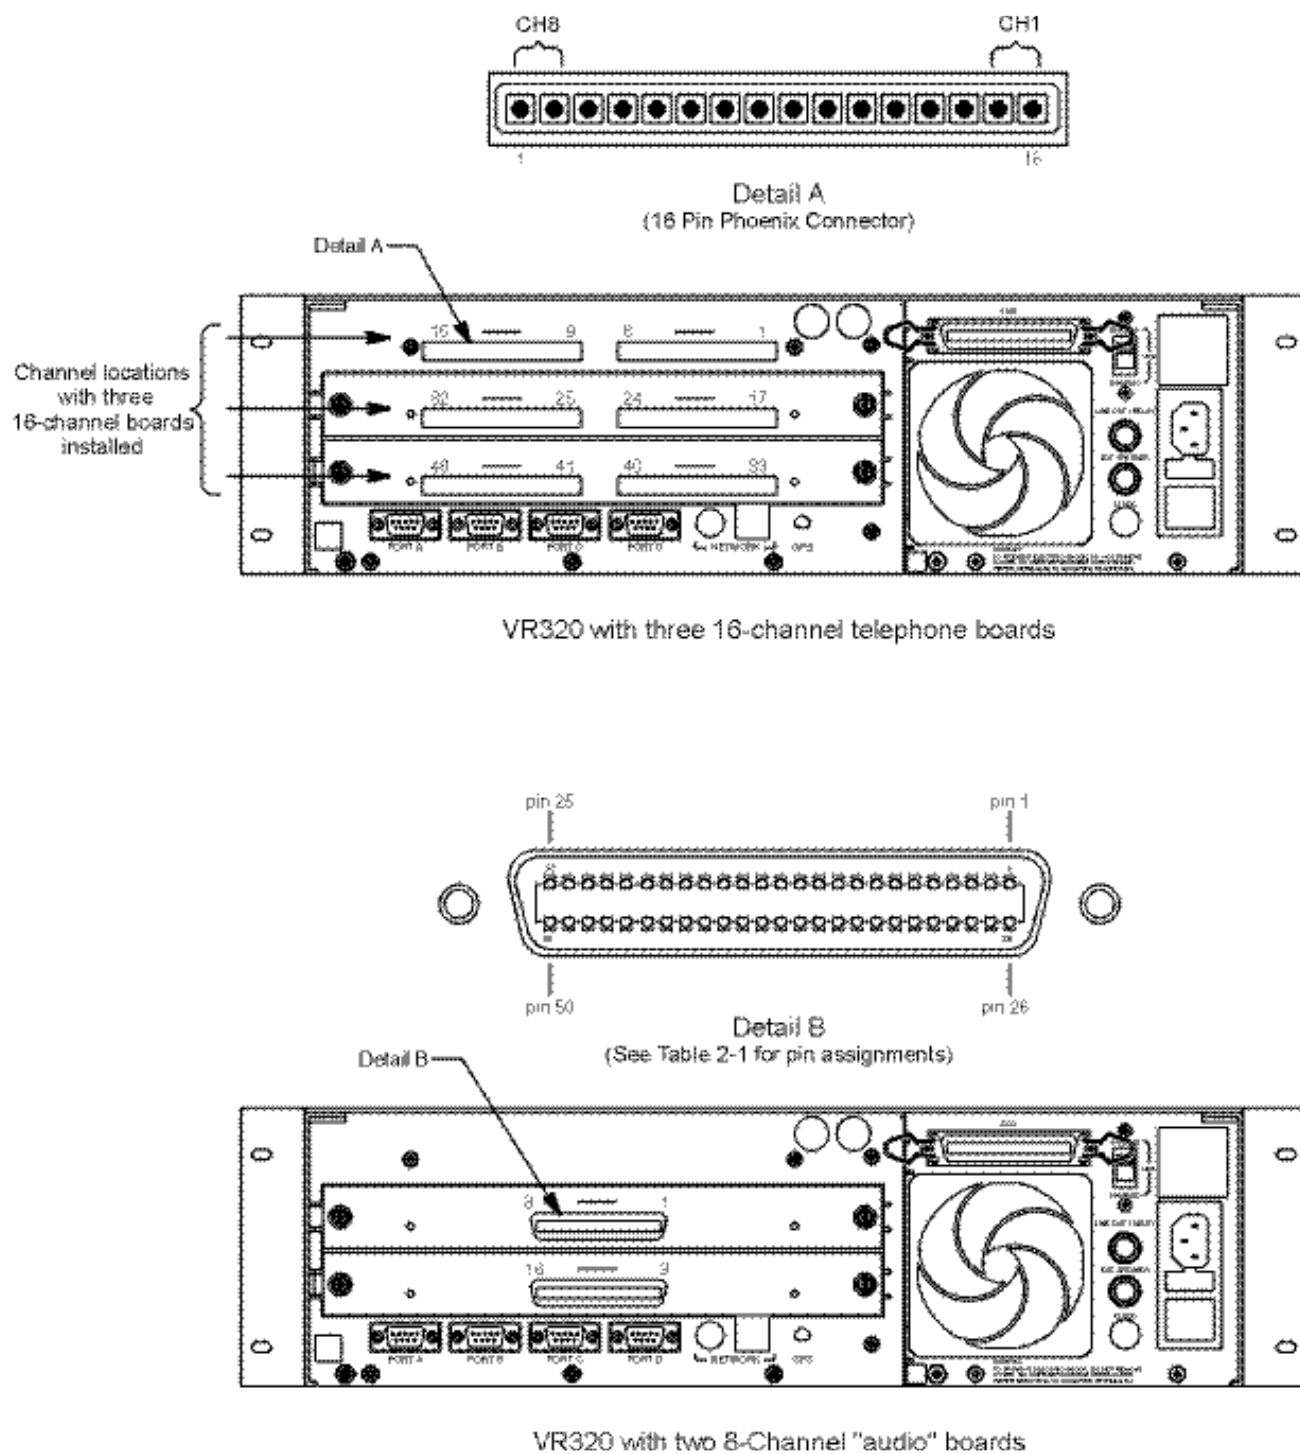

Figure 2-1. VR320 Connections
- b. Connect the telephone line "tip" lead to pin 1 and the "ring" lead to pin 2 of the 16 contact input connector (provided with the unit). See Figure 2-1.
- b. Connect the signal source line output to pins 1 and 26 of the top connector on the rear of the VR320 (using the male 50-pin connector provided). See Figure 2-1.